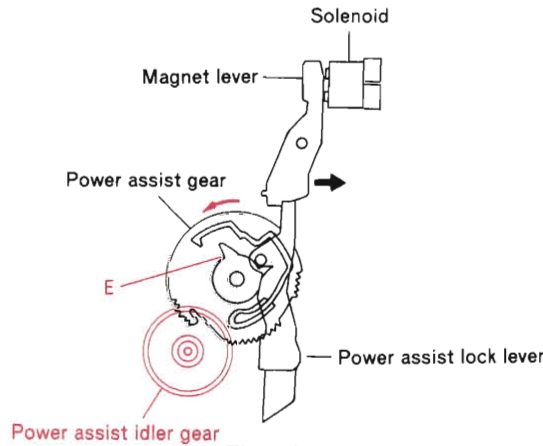
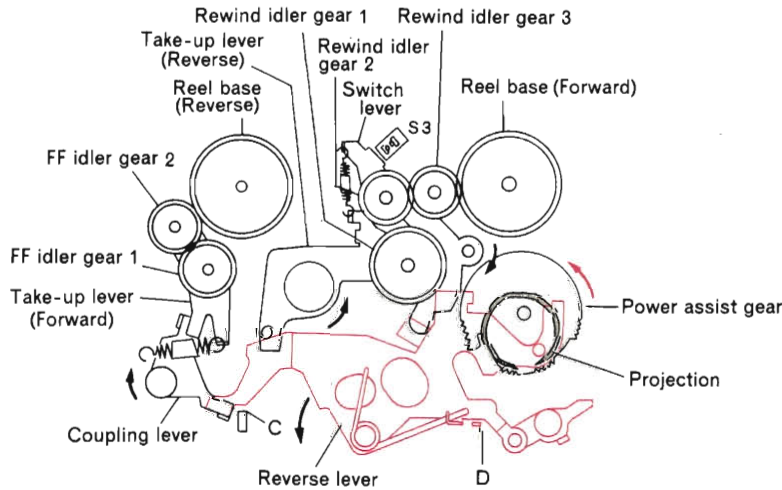
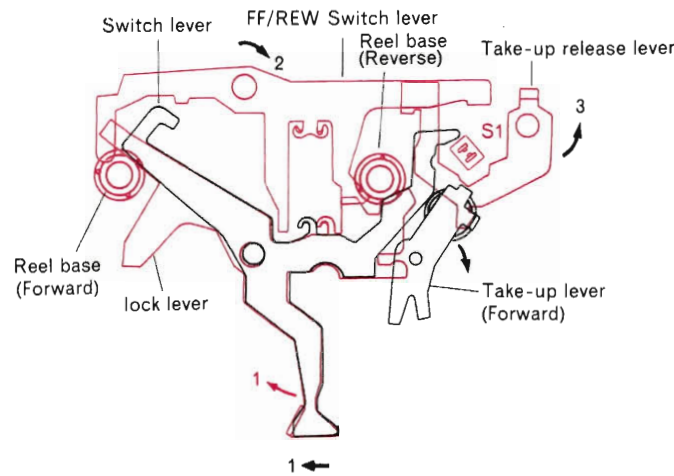
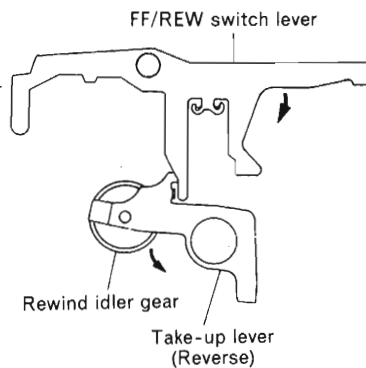

Fig. 18
Fig. 19
Fig. 20
Fig. 22
The magnet lever shown in Fig. 18 is attracted by the solenoid (iron core is magnetized) during forward play, but power is supplied to the solenoid at the tape end, magnetism of the iron core is neutralized, the iron core turns in the direction of the arrow, and the power assist lock lever releases locking of the power assist gear.
The power assist gear is provided with torque in the direction of the arrow by means of the projection of the reverse lever shown in Fig. 19, the power assist gear shown in Fig. 18 is turned in the direction of the arrow by the torque when locking of the power assist gear is released, and then it is engaged with the power assist idler gear, and the projection of the continuously turning reverse lever is pushed up along the cam of the power assist gear, so the reverse lever turns in the direction of the arrow. By this, ① the coupling lever is turned in the direction of the arrow to bring FF idler gear 1 away from reel base (reverse).
② Take-up lever (reverse) turns in the direction of the arrow, Rewind idler gear 1 and Rewind idler gear 2 engage with each other and the rotation is transmitted to reel base (forward). ③ Section C of pressure roller (reverse) is depressed, locking of the section D of pressure roller (forward) is released, and pressure roller (forward) is compressed against the capstan of flywheel (reverse). ④ The switch lever turns in the direction of the arrow to set S3 to ON and switches over the forward/reverse signals. The power assist gear is finally locked by section E shown in Fig. 18 to maintain the reverse mode.
When reel base (reverse) shown in Fig. 20 is pushed in, ① the lock lever and the switch lever turn in the direction of arrow 1 to release the locking of the play button and S1 (power switch) is set to ON. ② Reel base (reverse) is locked by the lock lever. ③ The fast forward/rewind switch lever turns in the direction of arrow 2 to turn the take-up release lever in the direction of arrow 3 to bring the FF idler gear 2 of take-up lever (forward) shown in Figs. 20, 21 away from reel base (reverse). Next, the inner gear of reel base (reverse) engages with the take-up gear ass'y and the unit enters the fast feed mode in the forward tape running direction.
When reel base (forward) shown in Fig. 20 is pushed in, ① the lock lever and the switch lever turn in the direction of arrow 1 to release the locking of the play button and S1 (power switch) is set to ON. ② Reel base (forward) is locked by the lock lever ③ The fast forward/rewind switch lever shown in Fig. 22 turns in the direction of the arrow, so rewind idler gear 1 of the take-up lever (reverse) is brought away from rewind idler gear 2 shown in Fig. 19. ④ The inner gear of reel base (forward) engages with the rewind gear and the unit enters the fast feed mode in the reverse tape running direction.